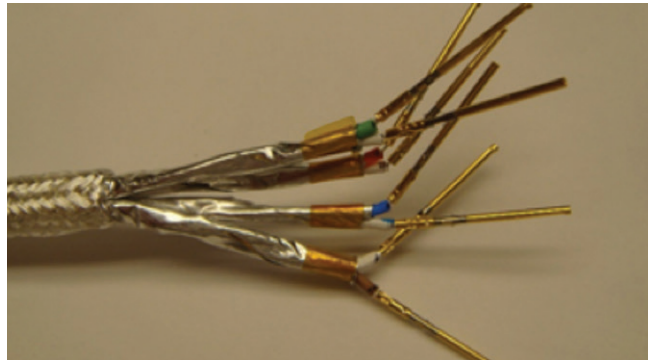

Figure 35: Stripping the pairs
11. Install the DCE.91.072.BVM positioner for the pin contact into the DPC.91.701.V hand crimpers, and select setting 5. To prevent stray wire strands during crimping, strip and crimp one primary at a time using contacts from the connector (Figure 35).